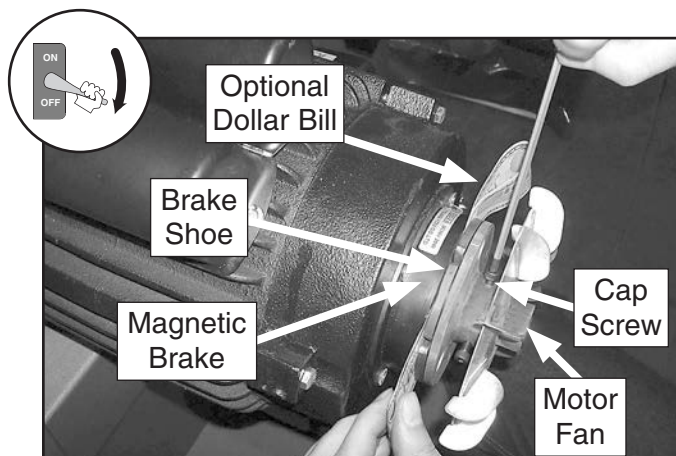

Figure 106. Adjusting distance between magnetic brake and brake shoe.
2. Remove the motor fan cover, then loosen the cap screws securing the motor fan and brake shoe (see **Figure 106**).